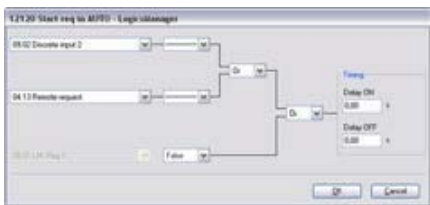

Fig. 183: LogicsManager function "Start req in AUTO"
2. ➔ Configure the LogicsManager function "Start req in AUTO" as shown in (Fig. 183) to start the generator in Automatic operating mode if discrete input [DI 02] ("09.02 Discrete input 2") is energized or a remote start request ("04.13 Remote request" = start via interface) is issued.